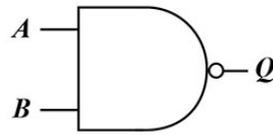

Fig. 2
- 5 (a) The circuit symbol for a two input logic gate is shown in Fig. 2.